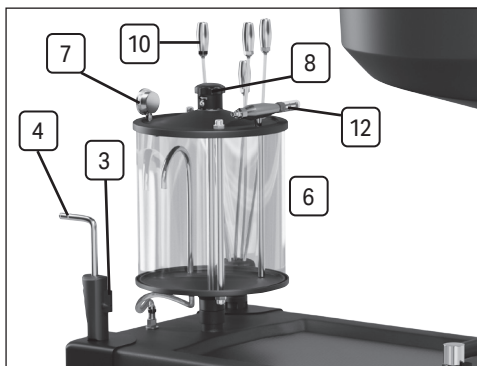

Fig.5
- Keep an eye on the oil level, the gauge (24) on the side of the waste oil collection tank (1) during operation. **DO NOT** fill above the maximum level.
7.2 Collection Waste by Vacuum Extraction (Fig.5)